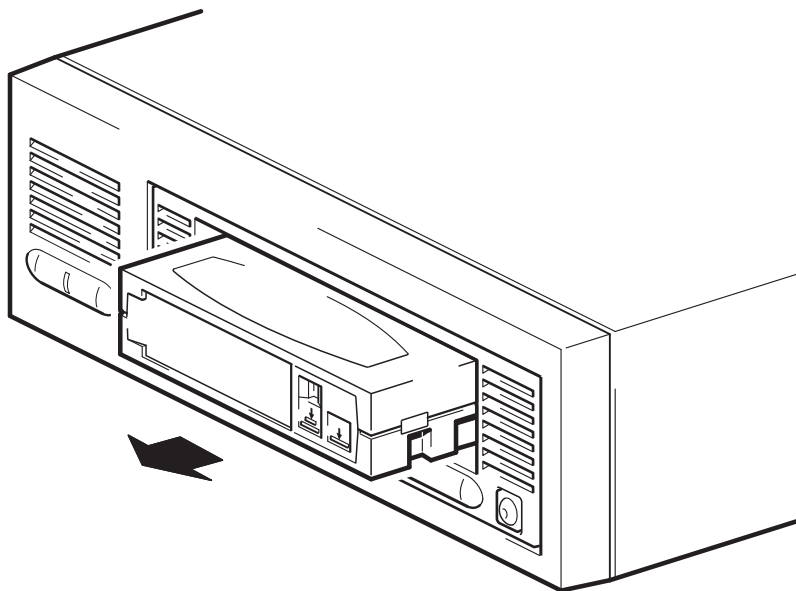

Figure 7b: unloading a DLTtape cartridge
- 1 Press the Eject button on the front panel or use your backup software to eject the cartridge (see Figure 7b). The Ready LED flashes while the drive rewinds the tape.